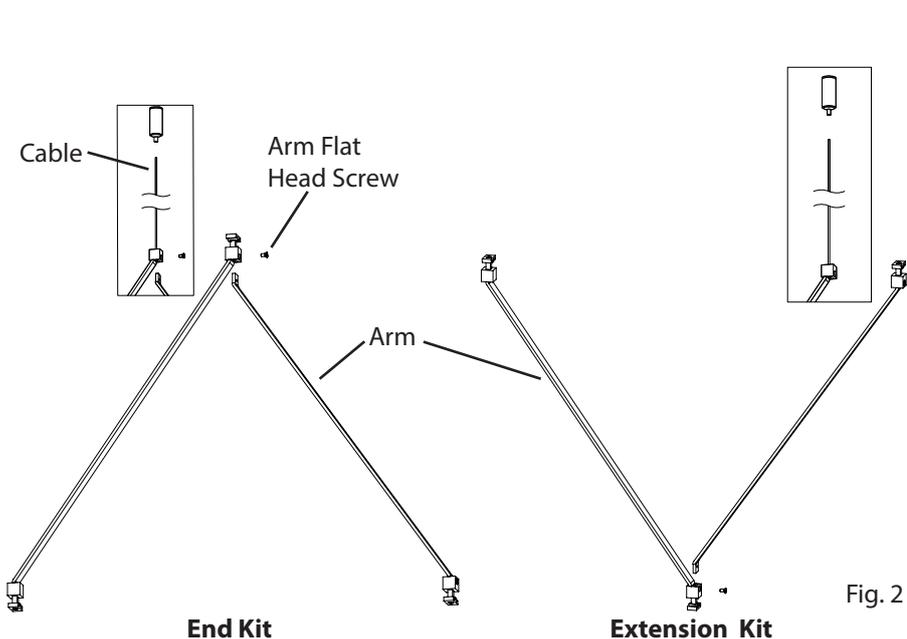
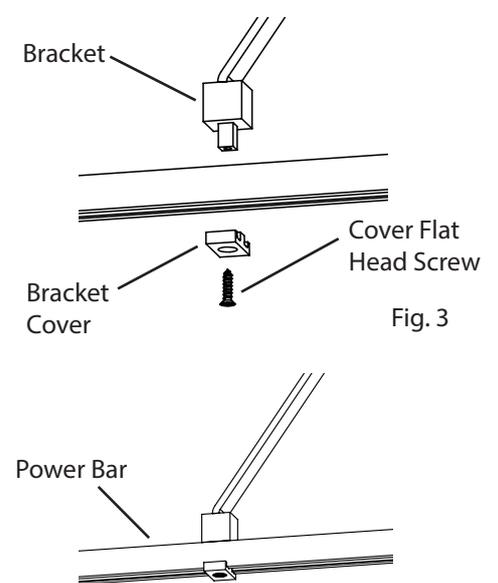

Fig. 2
Fig. 3
2. Insert Extension or End **Arm** into the remaining slot of the **Bracket** and secure it with the provided **Arm Flat Head Screw** (Fig. 2).
3. Where applicable: Insert the **Cable** into the **Post** and adjust to the desired length: to shorten, push the Cable up; to lengthen, push in the **Plunger** while pulling down on the Cable, release the Plunger to lock. Cut off the excess Cable where it exits the Post (Fig. 2).
4. Remove **Cover Flat Head Screw** and **Bracket Cover** and align **Power Bar** with the **Bracket** (Fig. 3).
2. Align **Power Bars** with **Hanger** (Fig. 2). Press down firmly on the top of the **Top Power Bar** and bottom of **Bottom Power Bar** until the Power Bars clicks into place. Reattach **Hanger Cap** with **Flat Head Screw** (Fig. 3).